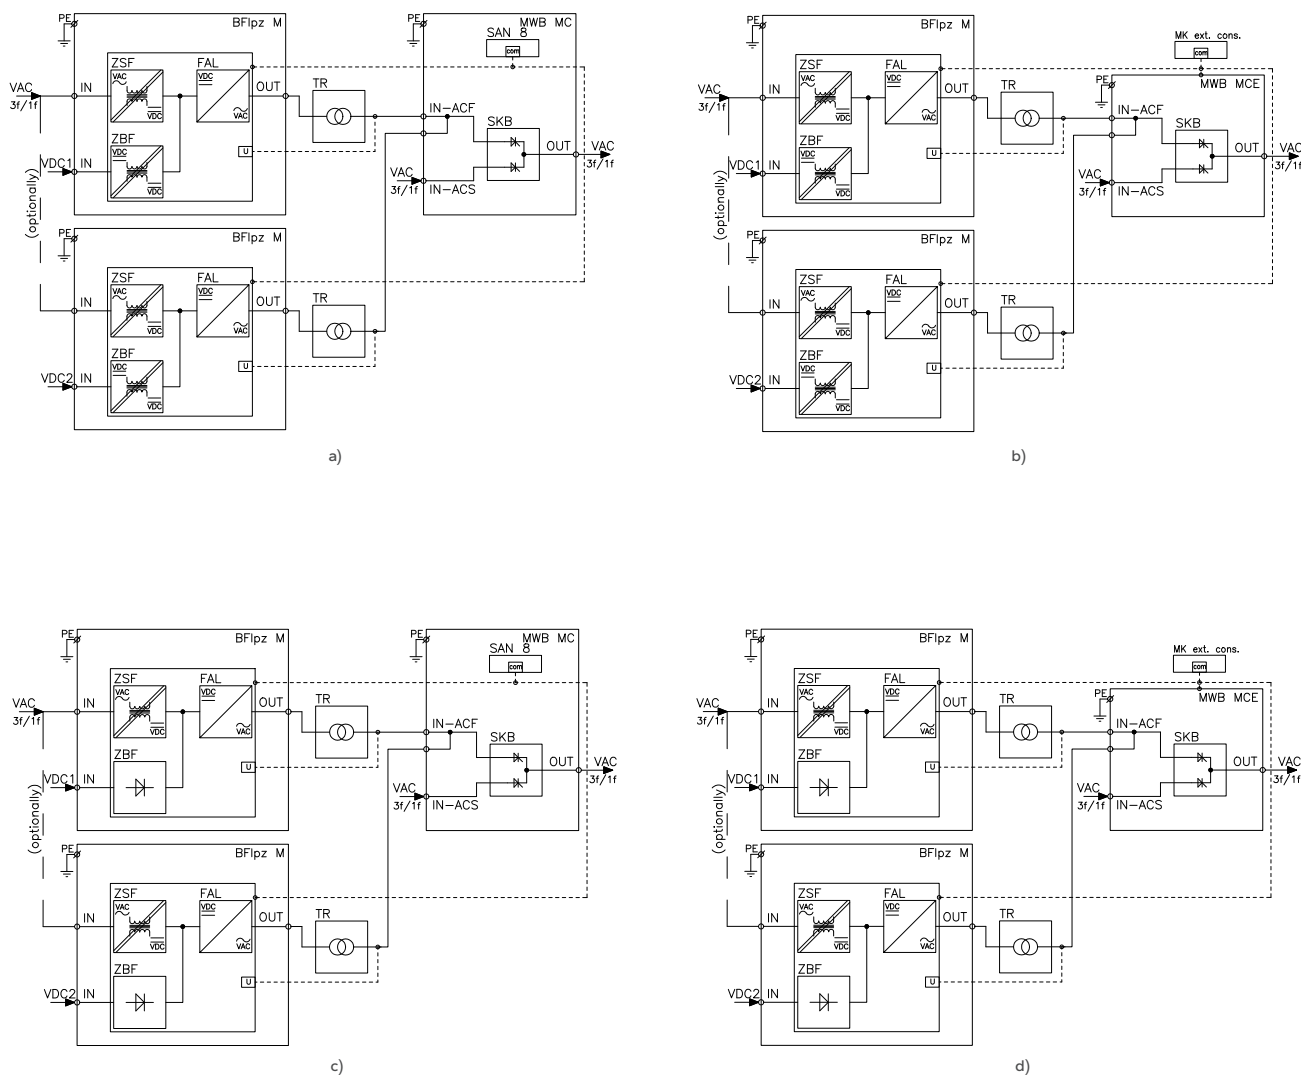
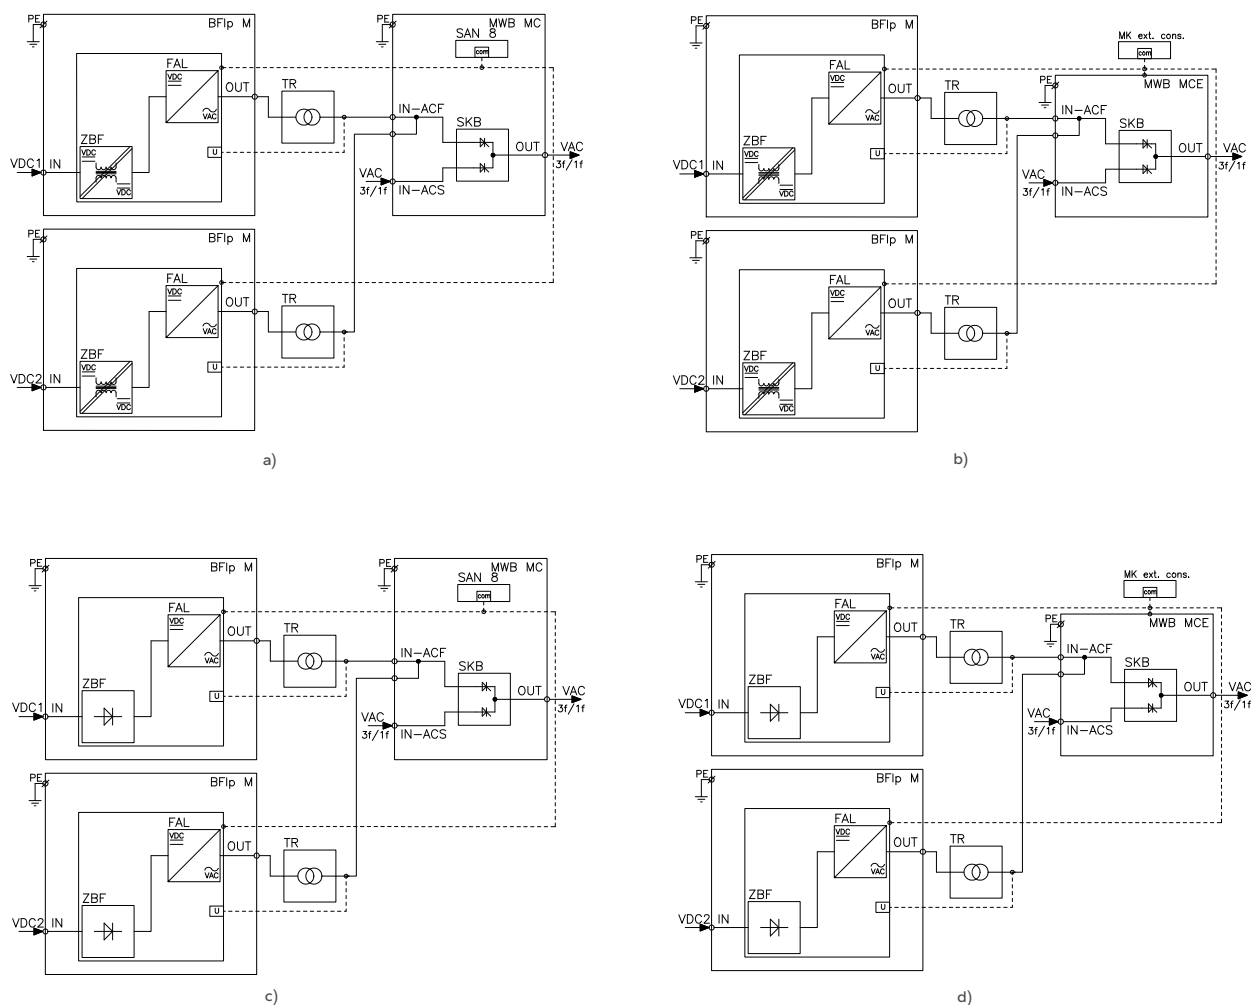

Fig. 55. Block diagram of the inverter modules for parallel operation with the BFlpz power supply unit and the MWB module. Possible configurations:
Fig. 56. Block diagram of the BFIp type inverter modules for parallel operation and the MWB module. Possible configurations:
The BFIpz inverter module is supplied by voltage of the basic AC network and DC battery voltage (Fig. 55), while the BFIp inverter module is supplied only by DC voltage (Fig. 56). The MWB module is supplied by the reserve AC network, and has two inputs to which output voltages (adapted to the client's requirements) of inverters are applied by transformers. The transformers provide isolation from supply voltages and constitute an ideal protection against penetration of the constant component to the loads in the case of a failure of the inverter. The MWB type inverters parallel operation integrating module is equipped with the SAN 8 system that controls the operating parameters of the inverters. The MWB module with a built-in console belong to the MC modules family (Fig. 56 a, c), while the modules with an external MK console are a part of the MCE modules family (Fig. 56 b, d). The BFIpz / BFIp modules without a controller belong to the M modules family.
(Fig. 55 a, b, and Fig. 56 a, b);
2. Cut-off diode (Fig. 55 c, d, and Fig. 56 c, d).
The system including a diode on the battery power supply circuit instead of a battery converter (Fig. 55 c, d, and Fig. 56 c, d) is characterised by a greater reliability due to a lack of processing on the DC circuit.
**SERIES TYPE: 1-PHASE INVERTER MODULES 1 ÷ 10kVA FOR PARALLEL OPERATION IN COOPERATION WITH 1-PHASE TRANSFORMER 230 V / 230 V 50 Hz – AS PER FIG. 55 A, B, AND FIG. 56 A, B**
**SERIES TYPE: 1-PHASE INVERTER MODULES 1 ÷ 10kVA FOR PARALLEL OPERATION IN COOPERATION WITH 1-PHASE TRANSFORMER 115 V / 230 V 50 Hz – AS PER FIG. 55 C, D, AND FIG. 56 C, D**
**SERIES TYPE: 3-PHASE INVERTER MODULES 1 ÷ 10kVA FOR PARALLEL OPERATION IN COOPERATION WITH 3-PHASE TRANSFORMER 3×240 V / 3×400 V 50 Hz – AS PER FIG. 55 A, B, AND FIG. 56 A, B**
**SERIES TYPE: 3-PHASE INVERTER MODULES 1 ÷ 10kVA FOR PARALLEL OPERATION IN COOPERATION WITH 3-PHASE TRANSFORMER 3×110 V / 3×400 V 50 Hz – AS PER FIG. 55 C, D, AND FIG. 56 C, D**